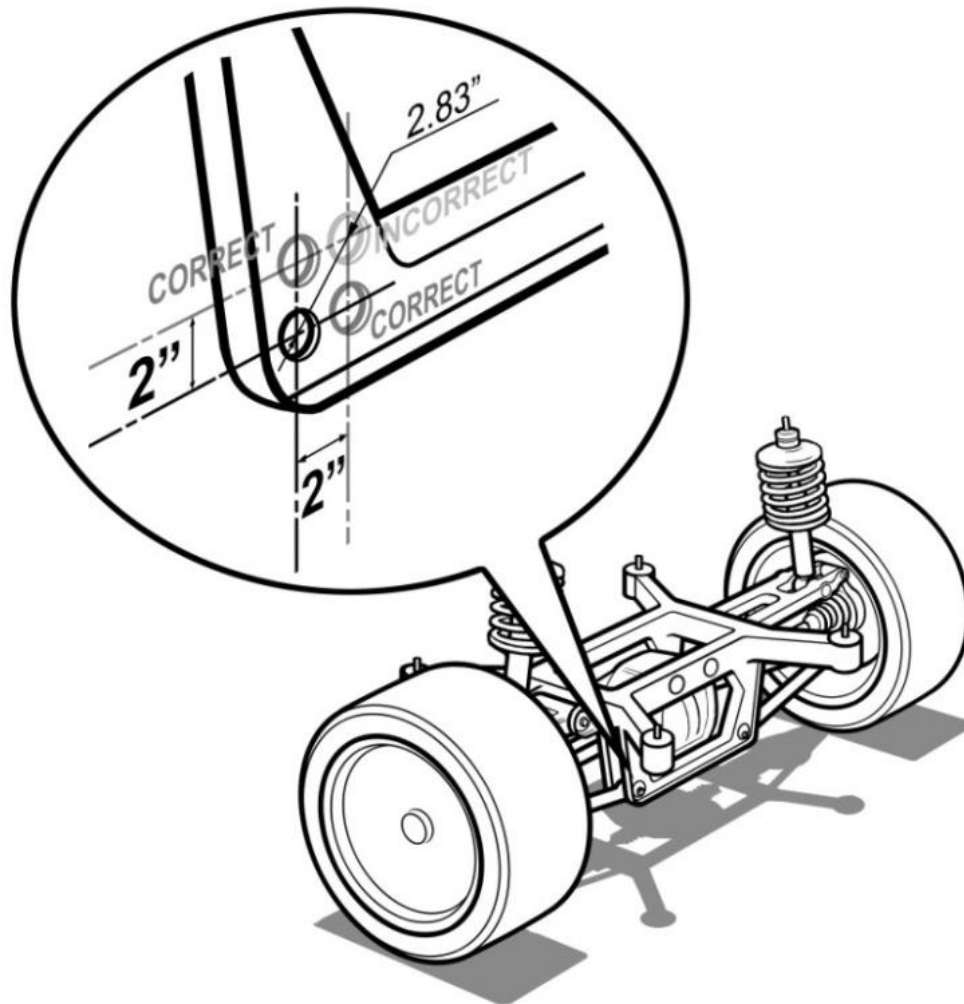

Figure 17
- K. This will be measured center to center from the original pivot point to the new pivot point. Please refer to Figure 17. This rule only applies to vehicles with a rear subframe and to pivot points on the rear subframe.